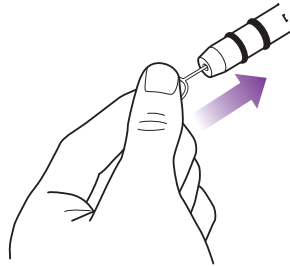

fig. 32
- 3 Use the provided nozzle cleaner or a small diameter stiff metal wire, such as a straightened metal paperclip, and carefully insert the end of the wire into the nozzle orifice. See illustration above. (fig. 32)